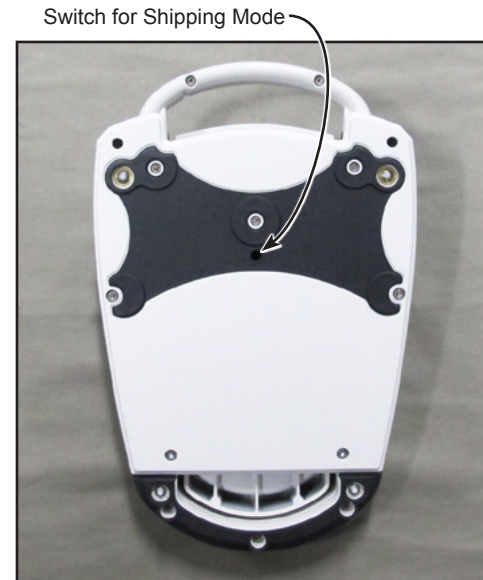

Figure 1-7 Setting the Footswitch to Shipping Mode
- 7.2 Set the footswitch to "shipping" mode by pressing and holding (for at least two seconds) the switch shown in Figure 1-7 with a cotton swab or other instrument that can reach the recessed switch without damaging the rubber covering.